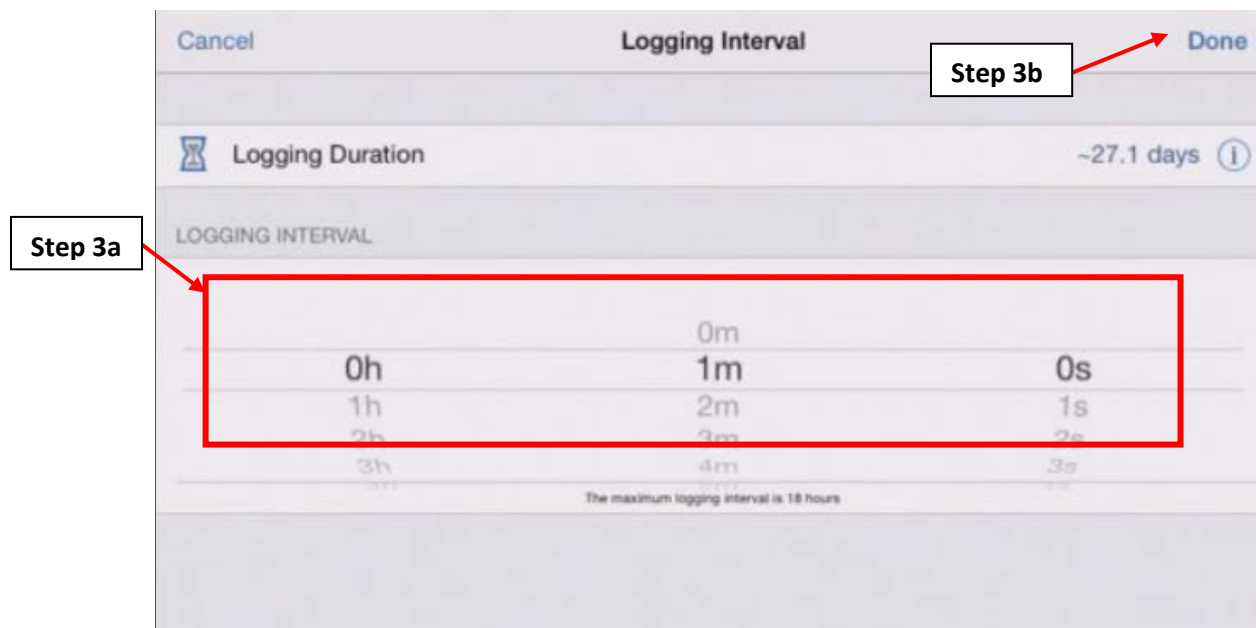

Figure A.6.6: The “Logging Interval” screen.
3. Tap on the “Logging Interval” option to go to the “Logging Interval” screen as shown on Figure A.6.6.
- b. Tap “Done” (Figure A.6.6) to go back to the “Configure” screen.